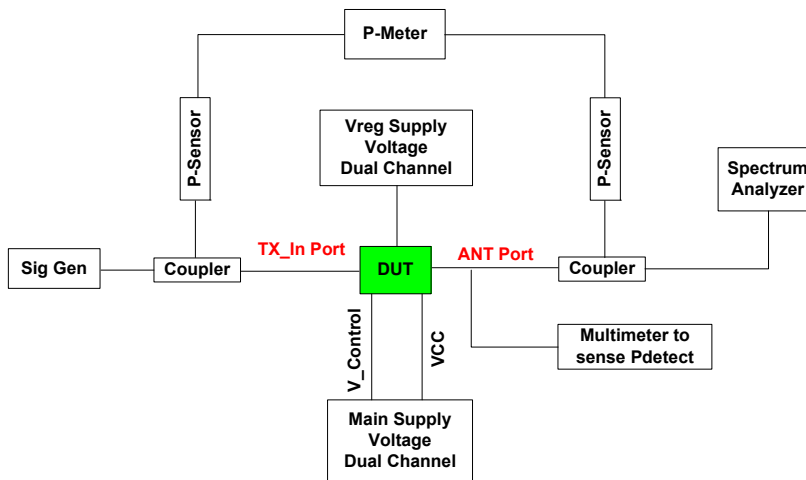

Figure 1. WiFi Transmit Path Test Setup
While in transmit mode, the active components are the Power Amplifier (PA) and the TX branch of the SP3T switch. Refer to figures 1 and 2 below for proper settings.
Once the test setup and DUT have been configured as indicated in figure 1 and 2, the off branches of the SP3T switch (C\_RX, and C\_BT) must be set to a logic state "low" (0.2V max) or grounded. In the event that one of these branches are left floating or in logic state "high" the performance of the PA will degrade significantly. Likewise, unused RF Ports must be terminated in 50Ω to simulate actual system conditions and prevent RF signals from coupling back to the PA.